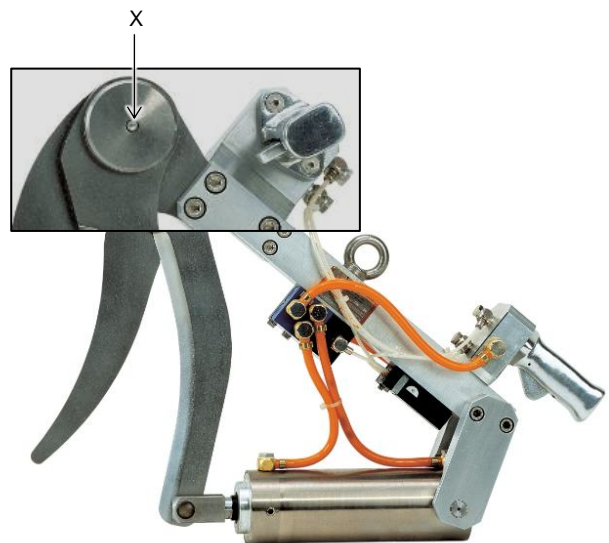

Fig. 7.1 – Lubricating point
Grease the blades via the grease nipple (X), see Fig. 7.1, using EFA special grease (1 – 2 strokes with grease gun).